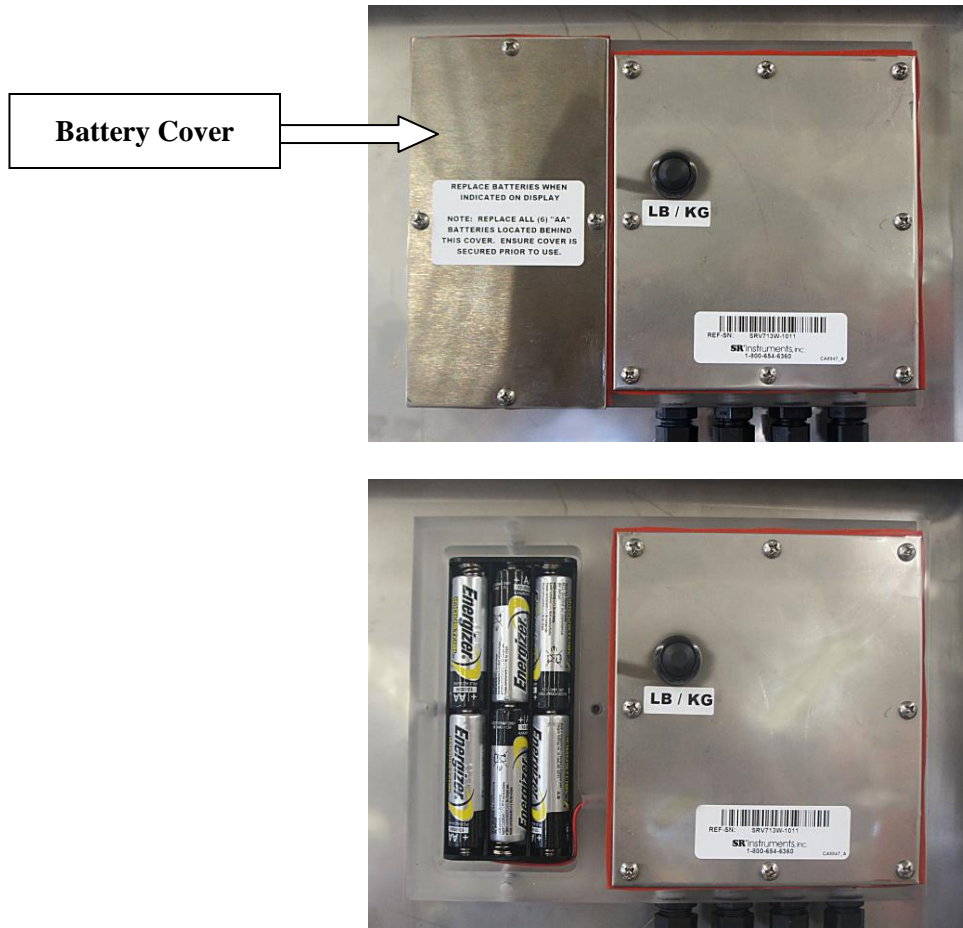

Figure 3: Battery Replacement
Figure 3: Battery Replacement .....	9
**STEP 2:** Remove the two (2) screws holding the display housing to the platform
**STEP 3:** Pull the display out from under the platform and remove the eight (8) screws from the display box cover pictured in Figure 3.